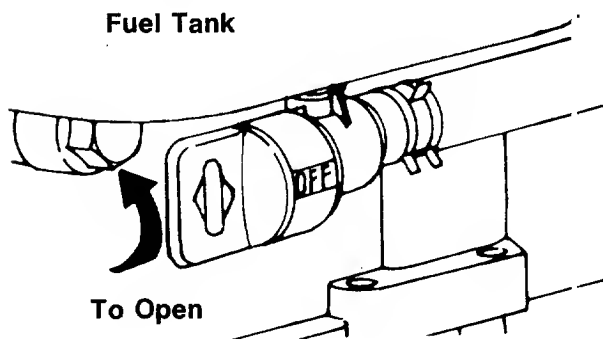

FIGURE 10.
2. Open fuel shut-off valve, located beneath the fuel tank. See figure 10.